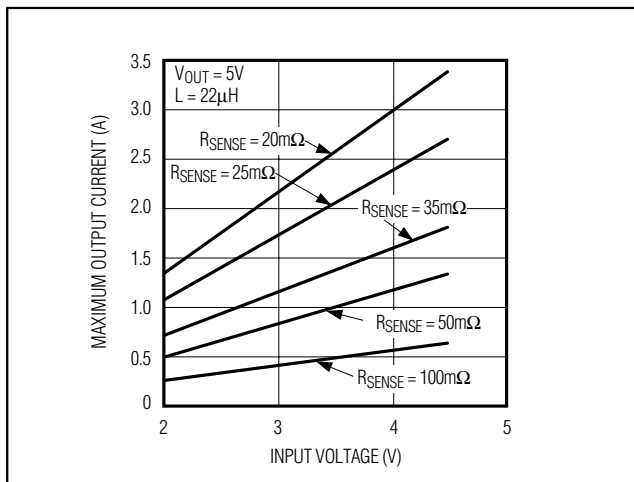

Figure 4a. Maximum Output Current vs. Input Voltage ( $V_{OUT} = 5V$ )
**Note 1:** Output voltage guaranteed using preset voltages. See Figures 4a–4d for output current capability versus input voltage.
Use the theoretical output current curves shown in Figures 4a–4d to select  $R_{SENSE}$ . They were derived using the minimum (worst-case) current-limit comparator threshold value over the extended temperature range (-40°C to +85°C). No tolerance was included for  $R_{SENSE}$ . The voltage drop across the diode was assumed to be 0.5V, and the drop across the power switch  $r_{DS(ON)}$  and coil resistance was assumed to be 0.3V.